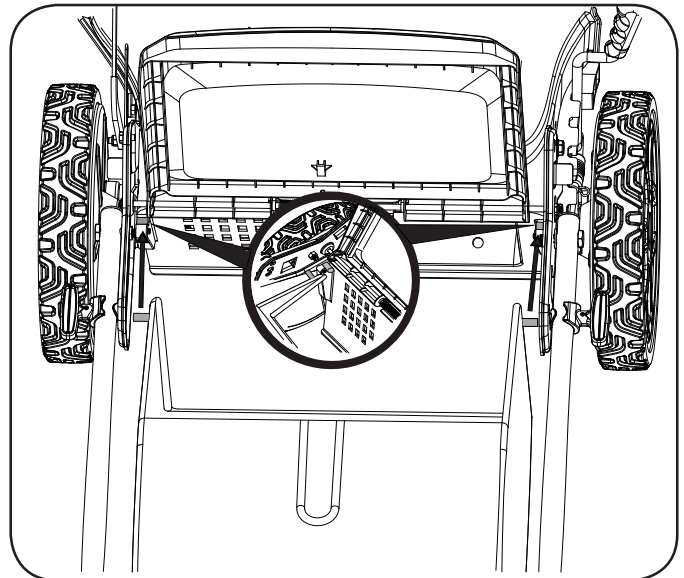

Figure 6
- b. Have the mounting bracket on grass catcher stuck into the mounting groove (Figure 6).